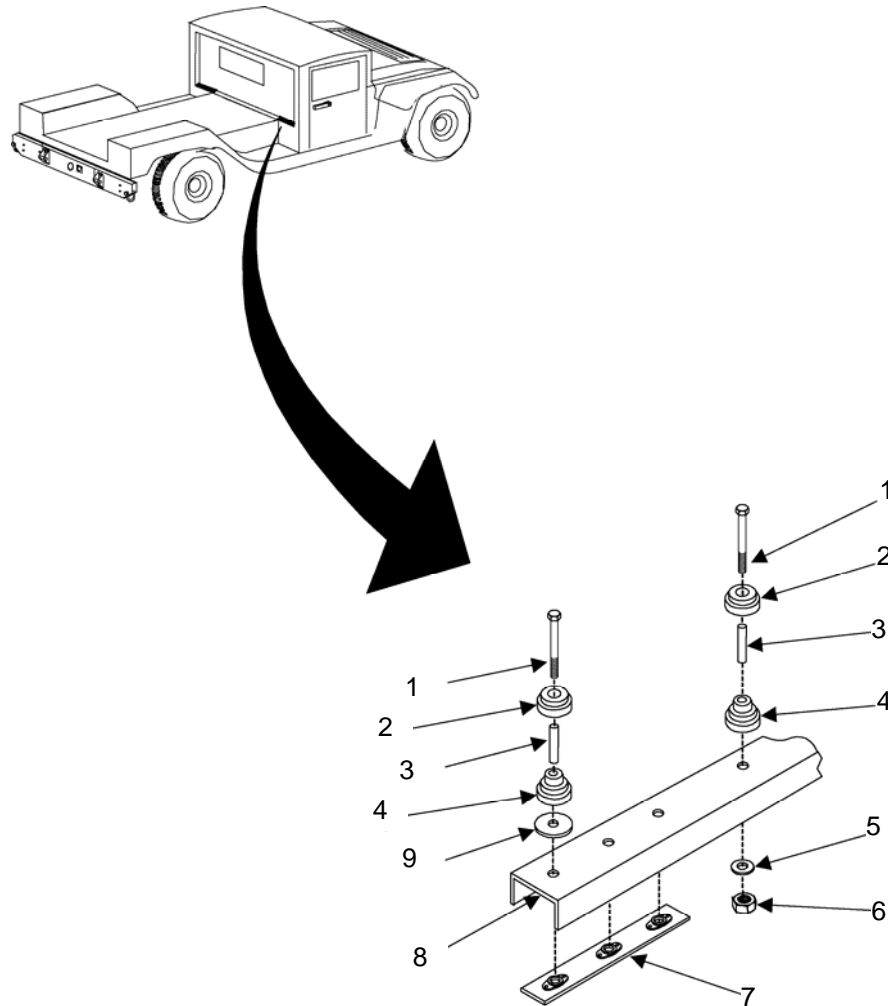

Figure 7. Front Mount Installation.
3. In the 3 outermost mounting holes, secure isolator mount washer (figure 7, item 2), sleeve spacer (figure 7, item 3), isolator (male portion) (figure 7, item 4), and isolator mount washer (figure 7, item 9) using screw (figure 7, item 1). Insert screws (figure 7, item 1) through the front mounting holes of the vehicle's beam (figure 7, item 8) and thread them into mounting kit bar assembly (figure 7, item 7), which is located under the beam. Do not tighten.
4. In the innermost mounting hole, secure isolator mount washer (figure 7, item 2), sleeve spacer (figure 7, item 3), and isolator (male portion) (figure 7, item 4) using screw (figure 7, item 1). Insert screw (figure 7, item 1) through the front mounting hole of the vehicle's beam (figure 7, item 8) and secure using flat washer (figure 7, item 5) and nut (figure 7, item 6) positioned under the beam. (There is no isolator mount washer for this innermost mounting hole). Do not tighten.